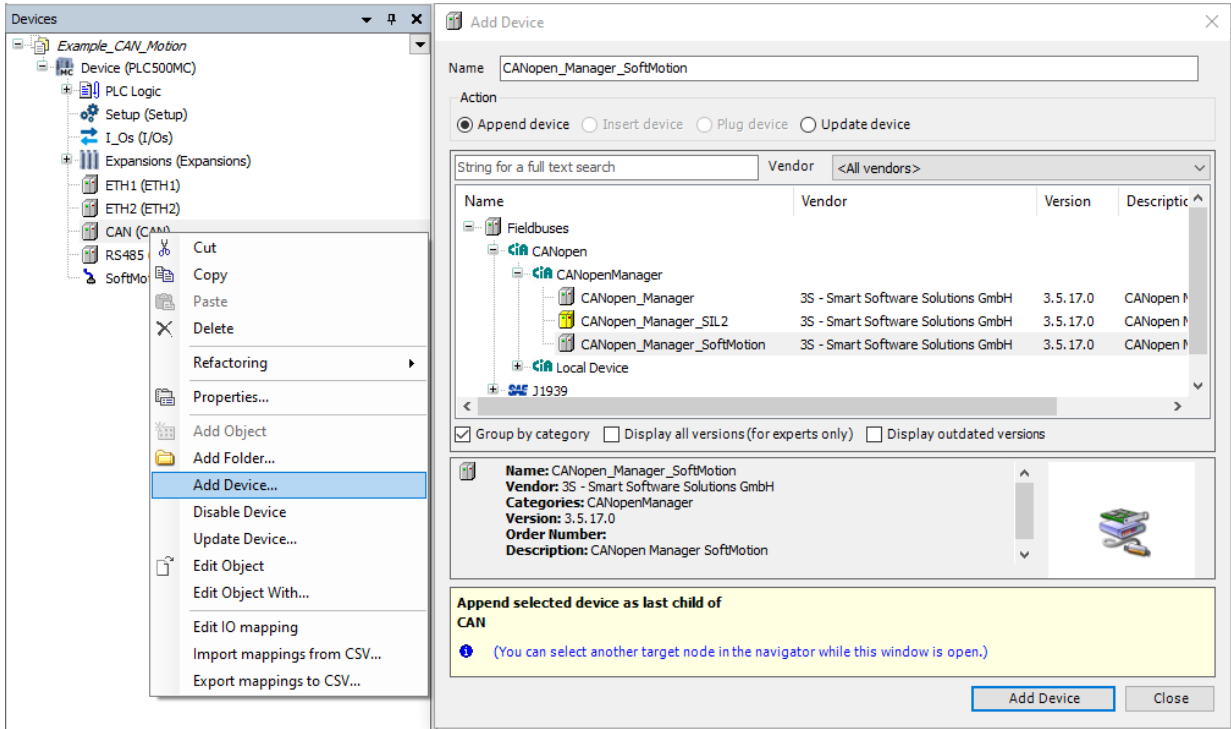

Figure 6.2: Adding CANopen Manager SoftMotion to the device tree.
- To add a new **CANopen Manager SoftMotion** communication interface, right-click the **CAN** object on the device tree, click **Add Device**, in the dialog select **Add Device**, and then **Fieldbuses > CANopen > CANopen_Manager_SoftMotion**, and click **Add Device** to add it to the device tree, as shown in Figure 6.2.